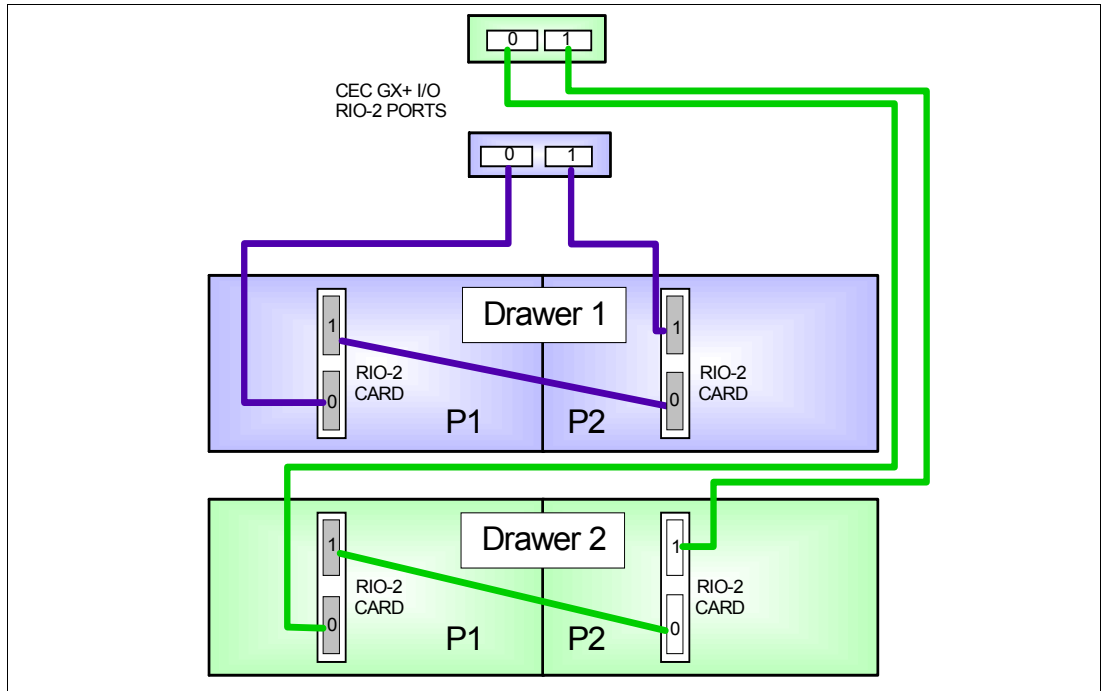

Figure 2-16 Single loop I/O drawer (FC 5791)
- ▶ Single-loop (Figure 2-16 on page 36) mode connects an entire I/O drawer to the CEC using one RIO-2 loop (2 ports). The two I/O planars in the I/O drawer are connected together using a short RIO-2 cable. Single-loop connection requires one RIO-2 Loop Attachment Adapter (FC 7818) per I/O drawer.